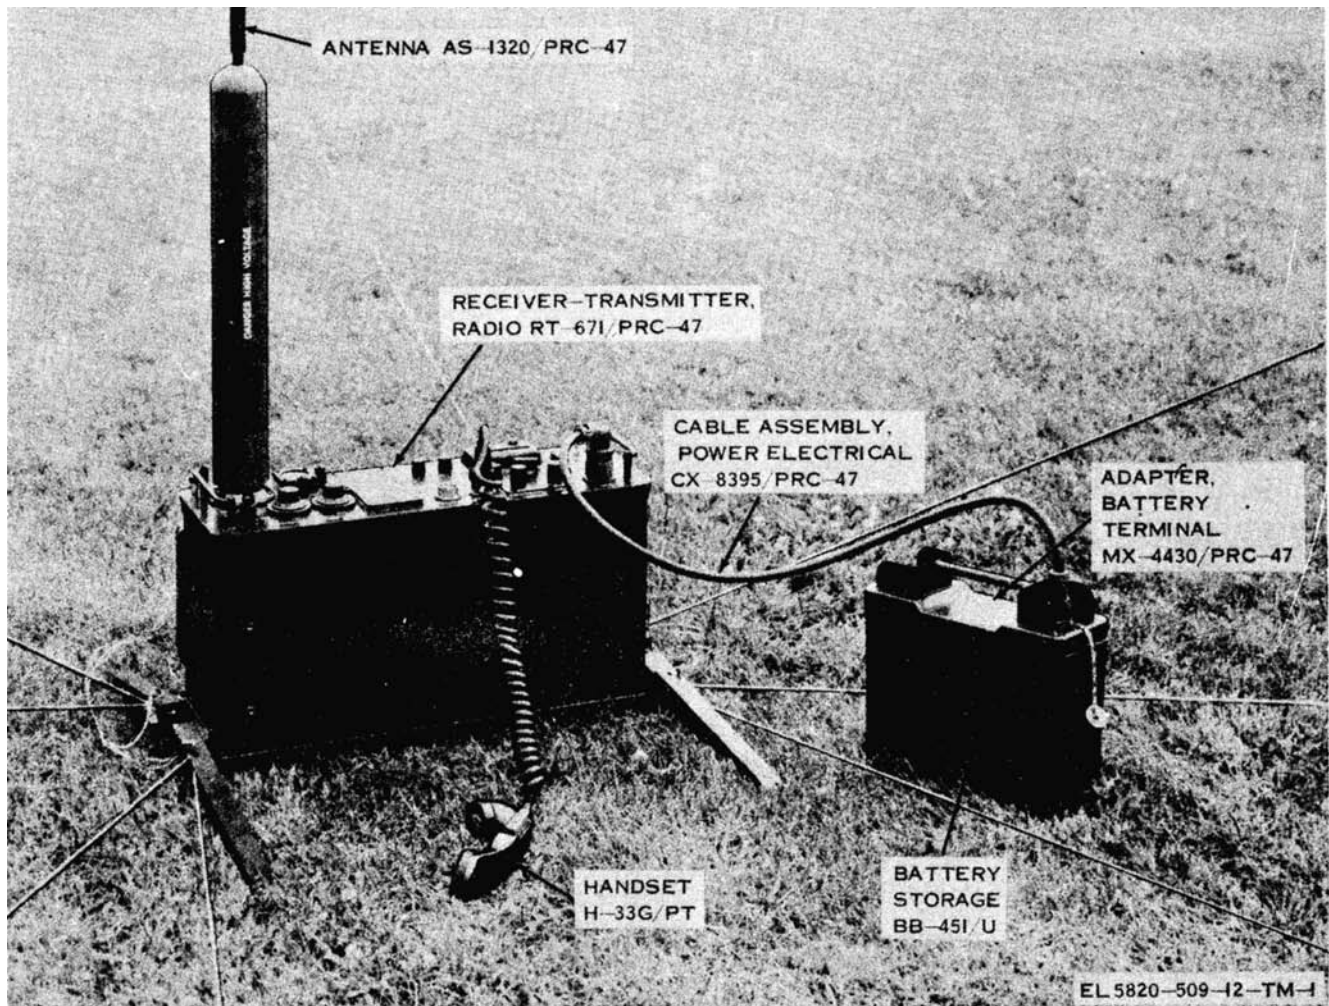

Figure 1-1. Radio Set AN/PRC-47
This manual describes Radio Set AN /PRC-47 (fig. 1-1) and includes instructions for installation, operation, organizational maintenance, shipment and limited storage, and demolition to prevent enemy use. The manual provides instructions for operation under usual and unusual conditions, and includes procedures for the cleaning, inspection, and maintenance of the AN/PRC-47 by the operator and organizational maintenance personnel. The repair parts list is contained in Appendix B and the maintenance allocation in Appendix C.
a. *Purpose.* Radio Set AN/PRC-47 (fig. 1-1) is a high frequency radio communications system. The radio set primarily provides 10,000 channels of upper sideband (usb) voice transmission and reception, continuous wave (cw) telegraphy, or frequency shift keying (fsk) teletype in the 2,000- 11.999-mHz frequency range. The radio set can be operated from its own control panel or controlled by a remote power control panel, such as Control Group AN/GRA-6, for at least a 2-mile distance.